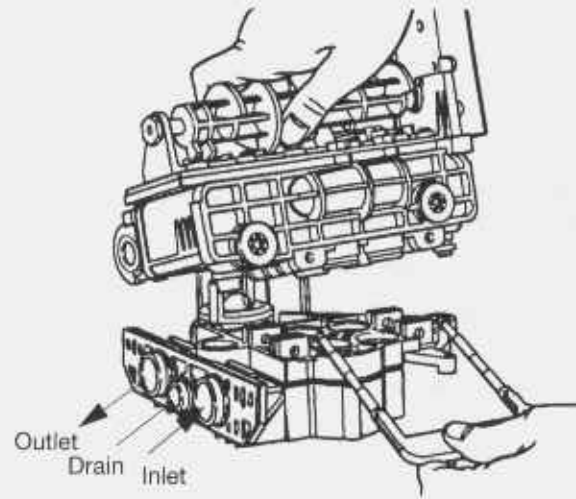

Figure 14
- Using a rocking motion, lift control from the tank adapter (Figure 14). If O-ring seals come off with control put them back into tank adapter sockets. Lubricate O-rings with silicone lubricant.